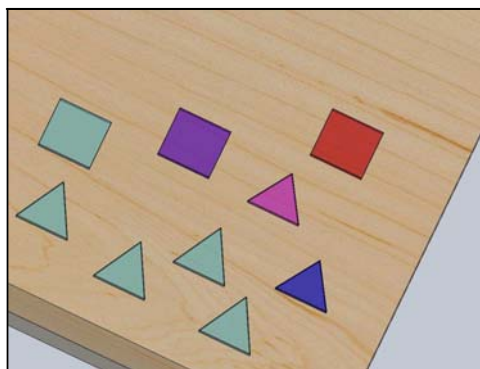

Figure 4: Colored pieces
Step 4: If clear glass is used, color the pieces using the **Colored Markers** any color you desire. Some examples are shown in Figure 4. All remaining figures demonstrate uncolored glass.